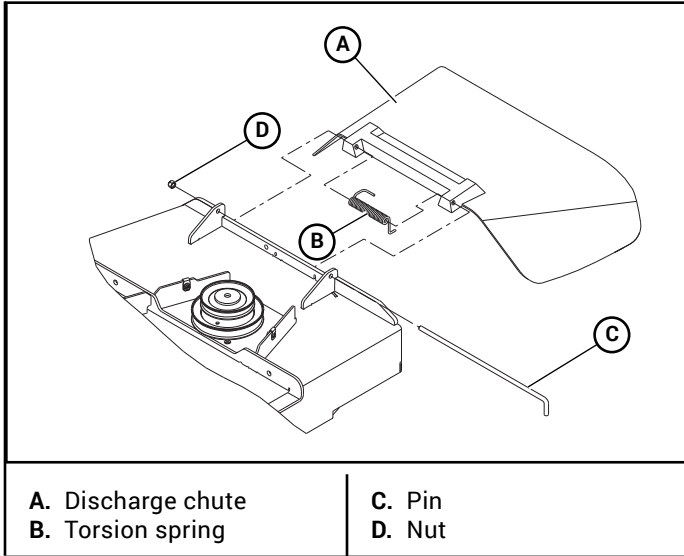
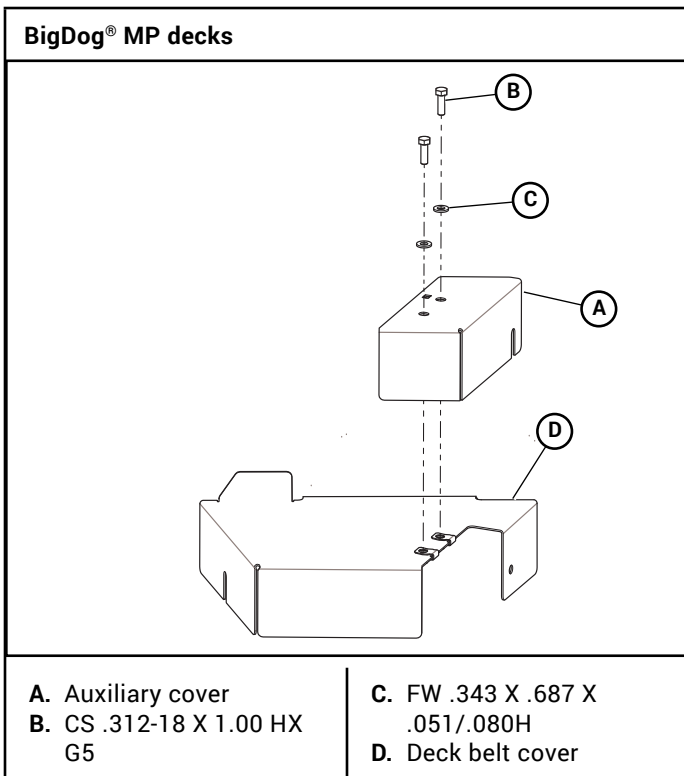

Figure 4-15
Figure 4-16
NOTE: Depending on the deck, the pin will either be inserted from the front or the rear. Make sure to replace it in the proper orientation. Figure 4-15
9. **BigDog® MP decks & Hustler® Super Z® 66"/72" decks only** – Attach the auxiliary cover to the deck belt cover. Figure 4-15 & Figure 4-16